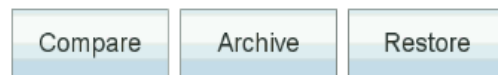

Figure 23: Compare Configurations Example
- » **Compare:** Allows Operators to compare the current Forecourt Controller configuration to one of the previously saved snapshots, selectable from a list. If any differences are found for any category (Grades, Tanks or Dispensers), they will be displayed (Figure 23).